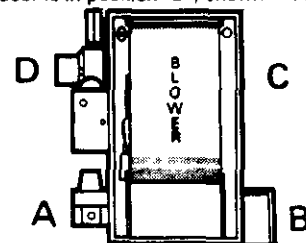

Figure 34 (4-042)
- Installing draft inducer when you leave gas and electrical controls in as-shipped position. As-shipped controls are in position "A" and draft inducer is in position "D", shown in Figure 34.